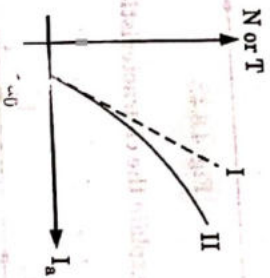

Fig. 4.9.2.
- At starting upto small value of armature current I_{a0} , torque of shaft will be zero. After I_{a0} , as current increases, torque will increase linearly. This is shown by curve I in Fig. 4.9.2.
$\therefore$ Actual characteristics will be as shown in curve II in Fig. 4.9.2